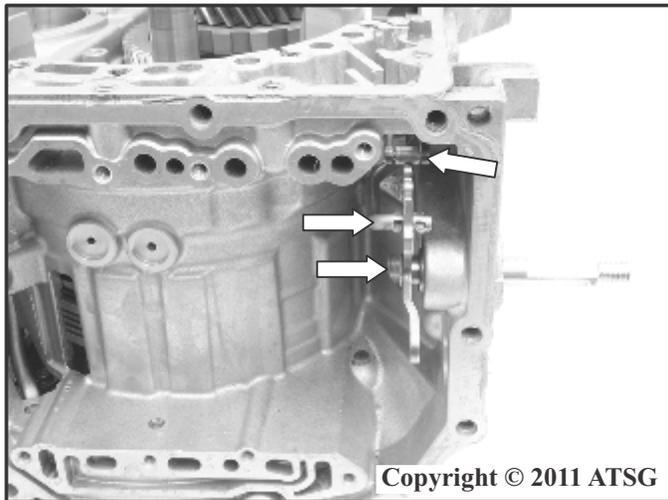

Figure 236
60. Install the parking pawl actuator rod into the transmission as shown in Figure 236.
61. Install the manual valve detent lever into the case as shown in Figure 236.
62. Rotate the manual valve detent lever forward and engage the parking pawl actuator rod into the detent lever. Lift upward on the manual valve detent spring and slide the manual valve detent lever into place in the transmission as shown in Figure 236. Be careful not to damage the linkage seal when installing the detent lever.